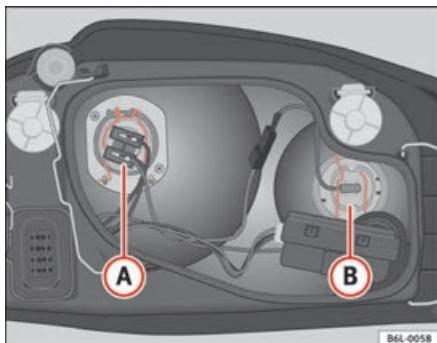

Fig. 154 Main beam lamp
- Remove the lamp cable connector ③ ⇒ fig. 154.